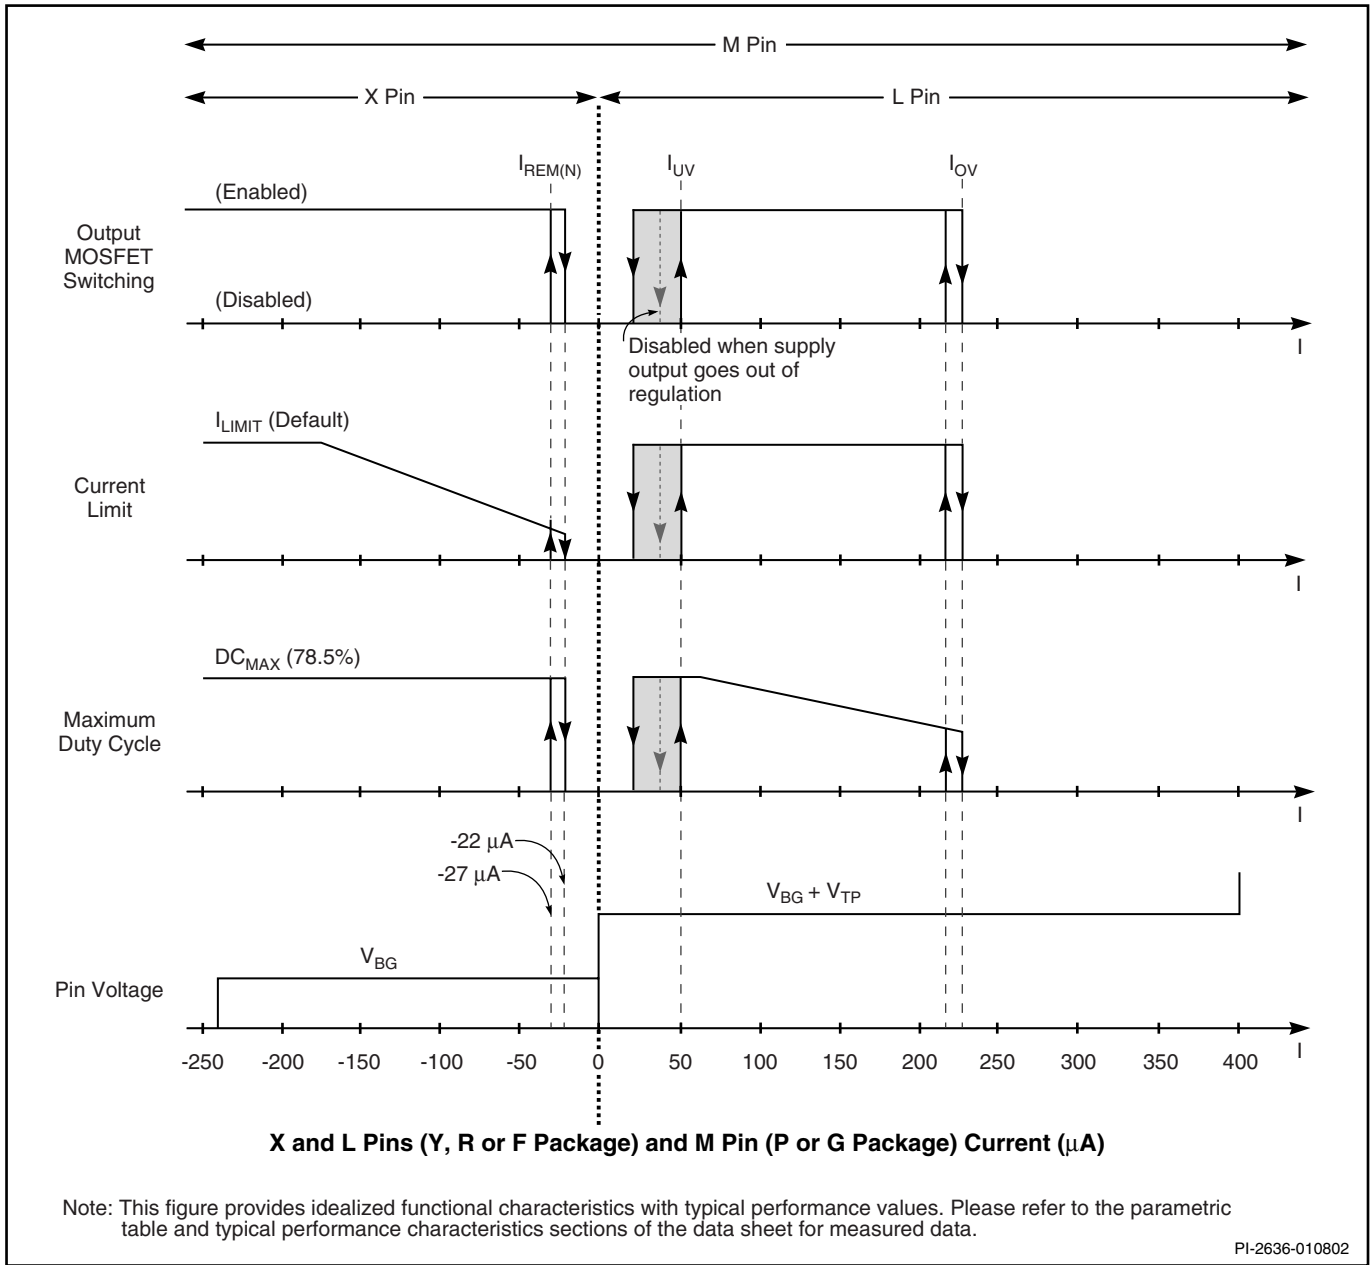
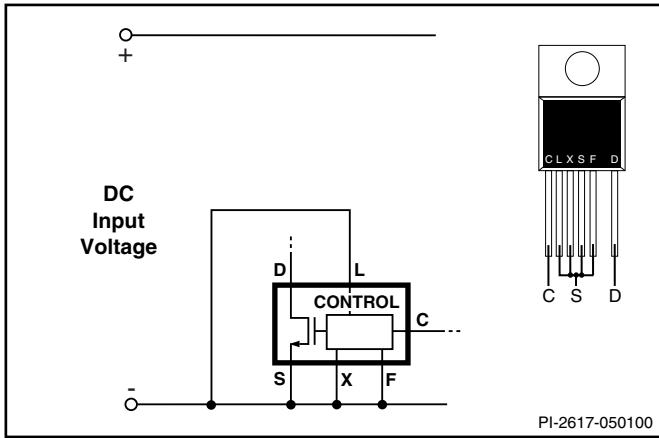
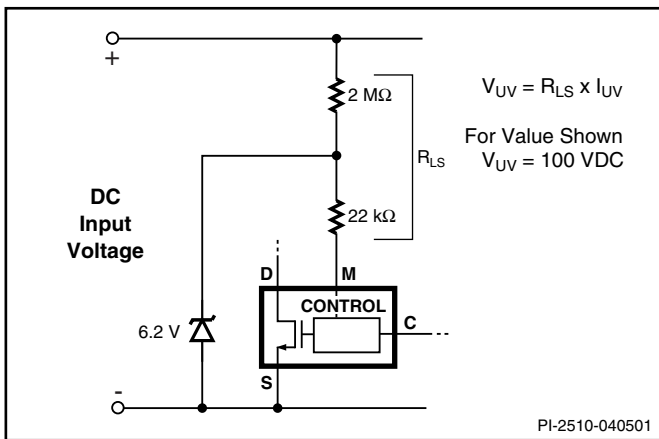

Figure 11. MULTI-FUNCTION (P or G package), LINSE-SENSE, and EXTERNAL CURRENT LIMIT (Y, R or F package) Pin Characteristics.
Figure 16. Three Terminal Operation (LINE-SENSE and EXTERNAL CURRENT LIMIT Features Disabled. FREQUENCY Pin Tied to SOURCE or CONTROL Pin).
Figure 18. Line-Sensing for Under-Voltage Only (Overvoltage Disabled).
The LINE-SENSE (L) pin is usually used for line sensing by connecting a resistor from this pin to the rectified DC high voltage bus to implement line overvoltage (OV), under-voltage (UV) and line feed-forward with DC_{MAX} reduction. In this mode, the value of the resistor determines the OV/UV thresholds and the DC_{MAX} is reduced linearly starting from a line voltage above the under-voltage threshold. See Table 2 and Figure 11.
The EXTERNAL CURRENT LIMIT (X) pin is usually used to reduce the current limit externally to a value close to the operating peak current, by connecting the pin to SOURCE through a resistor. This pin can also be used as a remote ON/OFF and a synchronization input in both modes. See Table 2 and Figure 11.
The maximum duty cycle, DC_{MAX} , is set at a default maximum value of 78% (typical). However, by connecting the LINE-SENSE or MULTI-FUNCTION pin (depending on the package) to the rectified DC high voltage bus through a resistor with appropriate value, the maximum duty cycle can be made to decrease from 78% to 38% (typical) as shown in Figure 11 when input line voltage increases (see line feed forward with DC_{MAX} reduction).
The same resistor used for UV also sets an overvoltage threshold which, once exceeded, will force *TOPSwitch-GX* output into off-state. The ratio of OV and UV thresholds is preset at 4.5 as can be seen in Figure 11. When the MOSFET is off, the rectified DC high voltage surge capability is increased to the voltage rating of the MOSFET (700 V), due to the absence of the reflected voltage and leakage spikes on the drain. A small amount of hysteresis is provided on the OV threshold to prevent noise triggering. The OV feature can be disabled independent of the UV feature as shown in Figures 18 and 32.
feature, the maximum duty cycle DC_{MAX} is also reduced from 78% (typical) at a voltage slightly higher than the UV threshold to 30% (typical) at the OV threshold (see Figure 11). Limiting DC_{MAX} at higher line voltages helps prevent transformer saturation due to large load transients in forward converter applications. DC_{MAX} of 38% at the OV threshold was chosen to ensure that the power capability of the *TOPSwitch-GX* is not restricted by this feature under normal operation.
TOPSwitch-GX can be turned on or off by controlling the current into the LINE-SENSE pin or out from the EXTERNAL CURRENT LIMIT pin (Y, R or F package) and into or out from the MULTI-FUNCTION pin (P or G package) (see Figure 11). In addition, the LINE-SENSE pin has a 1 V threshold comparator connected at its input. This voltage threshold can also be used to perform remote ON/OFF control. This allows easy implementation of remote ON/OFF control of *TOPSwitch-GX* in several different ways. A transistor or an optocoupler output connected between the EXTERNAL CURRENT LIMIT or LINE-SENSE pins (Y, R or F package) or the MULTI-FUNCTION pin (P or G package) and the SOURCE pin implements this function with “active-on” (Figures 22, 29 and 36) while a transistor or an optocoupler output connected between the LINE-SENSE pin (Y, R or F package) or the MULTI-FUNCTION (P or G package) pin and the CONTROL pin implements the function with “active-off” (Figures 23 and 37).
There are a total of four functions available through the use of the LINE-SENSE pin: OV, UV, line feed-forward with DC_{MAX} reduction, and remote ON/OFF. Connecting the LINE-SENSE pin to the SOURCE pin disables all four functions. The LINE-SENSE pin is typically used for line sensing by connecting a resistor from this pin to the rectified DC high voltage bus to implement OV, UV and DC_{MAX} reduction with line voltage. In this mode, the value of the resistor determines the line OV/UV thresholds, and the DC_{MAX} is reduced linearly with rectified DC high voltage starting from just above the UV threshold. The pin can also be used as a remote ON/OFF and a synchronization input. Refer to Table 2 for possible combinations of the functions with example circuits shown in Figure 16 through Figure 40. A description of specific functions in terms of the LINE-SENSE pin I/V characteristic is shown in Figure 11 (right hand side). The horizontal axis represents LINE-SENSE pin current with positive polarity indicating currents flowing into the pin. The meaning of the vertical axes varies with functions. For those that control the ON/OFF states of the output such as UV, OV and remote ON/OFF, the vertical axis represents the enable/disable states of the output. UV triggers at I_{UV} (+50 μ A typical with 30 μ A hysteresis) and OV triggers at I_{OV} (+225 μ A typical with 8 μ A hysteresis). Between the UV and OV thresholds, the output is enabled. For line feed-forward with
There are two functions available through the use of the EXTERNAL CURRENT LIMIT pin: external current limit and remote ON/OFF. Connecting the EXTERNAL CURRENT LIMIT pin and SOURCE pin disables the two functions. In high efficiency applications, this pin can be used to reduce the current limit externally to a value close to the operating peak current by connecting the pin to the SOURCE pin through a resistor. The pin can also be used for remote ON/OFF. Table 2 shows several possible combinations using this pin. See Figure 11 for a description of the functions where the horizontal axis (left hand side) represents the EXTERNAL CURRENT LIMIT pin current. The meaning of the vertical axes varies with function. For those that control the ON/OFF states of the output such as remote ON/OFF, the vertical axis represents the enable/disable states of the output. For external current limit, the vertical axis represents the magnitude of the I_{LIMIT} . Please see graphs in the Typical Performance Characteristics section for the current limit programming range and the selection of appropriate resistor value.
be used as a remote ON/OFF and a synchronization input in both modes. Please refer to Table 3 for possible combinations of the functions with example circuits shown in Figure 30 through Figure 40. A description of specific functions in terms of the MULTI-FUNCTION pin I/V characteristic is shown in Figure 11. The horizontal axis represents MULTI-FUNCTION pin current with positive polarity indicating currents flowing into the pin. The meaning of the vertical axes varies with functions. For those that control the ON/OFF states of the output such as UV, OV and remote ON/OFF, the vertical axis represents the enable/disable states of the output. UV triggers at I_{UV}